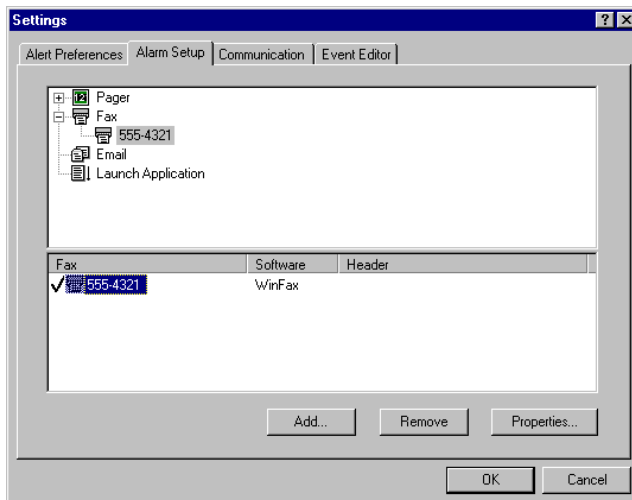

Figure 4-13. Fax Alarm Setup
1. Select the Fax alarm type in the upper window of the Alarm Setup dialog box (Figure 4-13).
Your new Fax entry appears in the lower window of the Alarm Setup dialog box. (Refer back to Figure 4-13 for an example.)